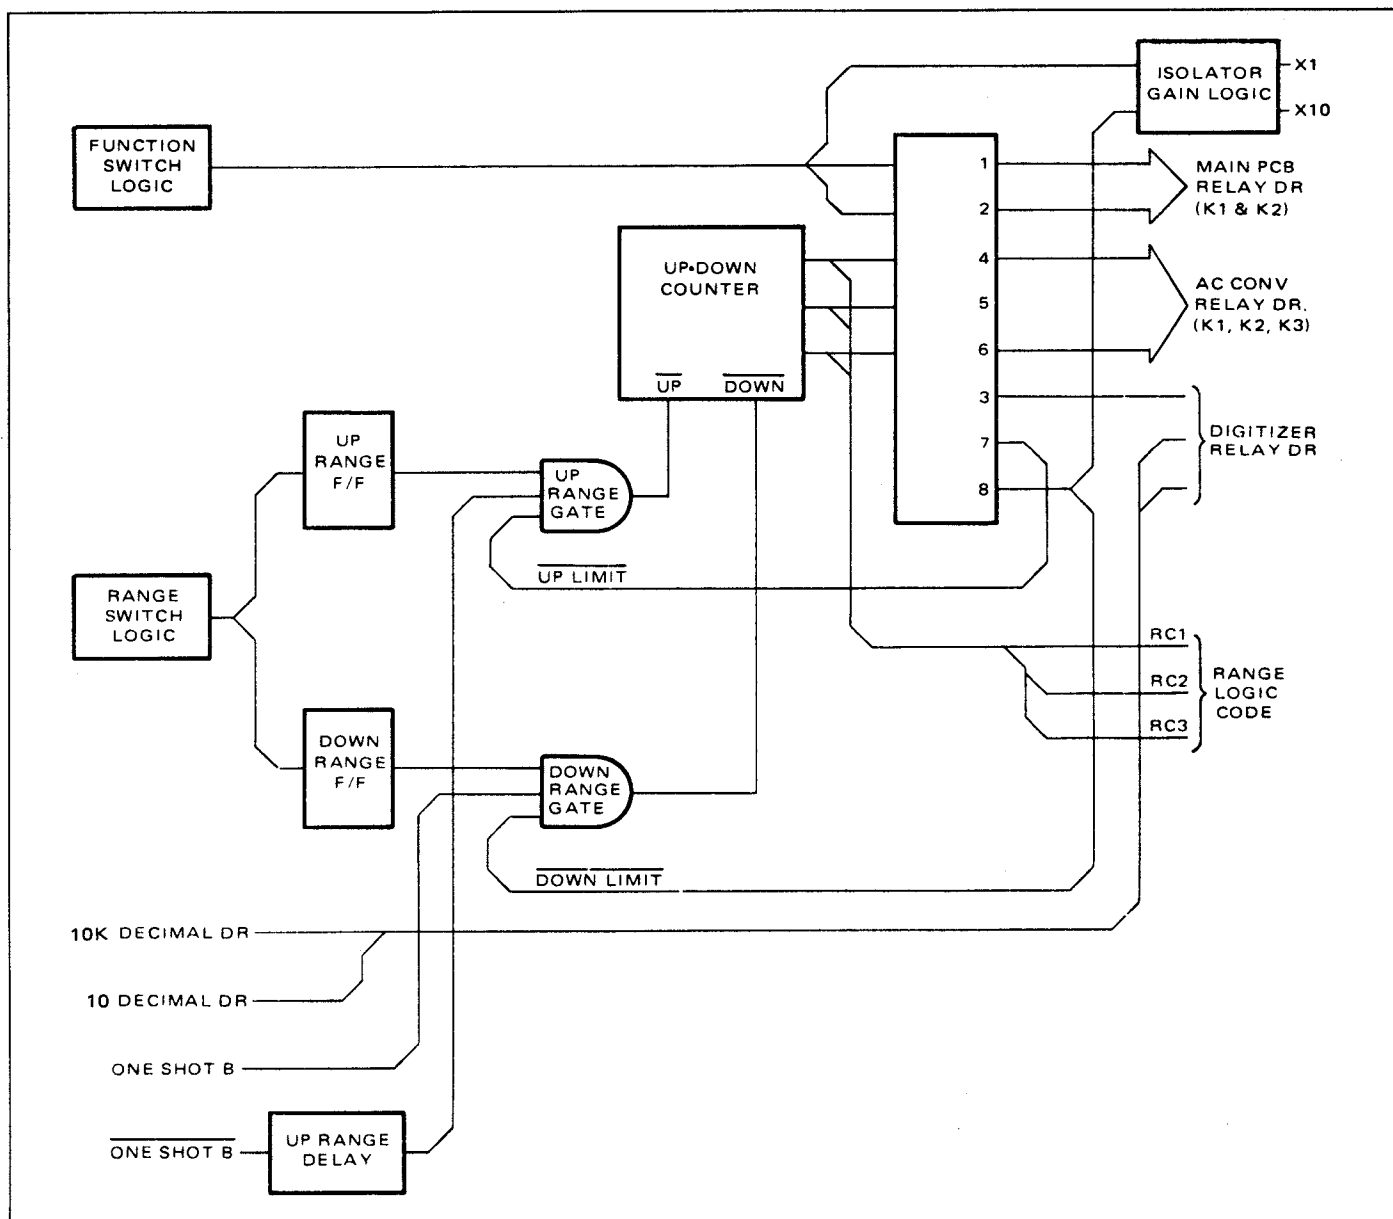

Figure 4.5 - Function and Range Logic
4.3.4.1 The range control logic is illustrated in simplified form in figure 4.5. The range control circuits control the gain of the isolator, the attenuation in the AC Converter and in the voltage circuits. In addition, the range control circuits provide a range code to the decimal decoder for positioning of the decimal point on the front panel display. The heart of the range control circuits is the range counter, a three state UP/DOWN counter controlled by a pair of UP/DOWN flip-flops. When the range is to be stepped up manually the switch closure from S8-B in combination with the clock applies a pulse to the UP input of the range counter, thereby increasing the count. Manual down ranging is accomplished in exactly the same way by a switch closure from S9-A when the DOWN pushbutton is depressed. In auto range, the same UP or DOWN flip-flops are set by two signals which come from the counter. If the counter reaches a count which is greater than 100% of the measurement count prior to the null detect it produces an overload (O/L) signal. This signal is applied to the step-up flip-flop and causes the range counter to step up one count. If the null detect signal should occur before the counter reaches the 10% point in its count a signal termed divide by 2K ( $\div 2K$ ) is produced indicating that the measurement is less than 10% of full scale. This divide by 2K signal is applied to the step-down flip-flop, which causes the range counter to count down one step. Thus, the manual push-buttons, or the internal logic, cause the range counter to